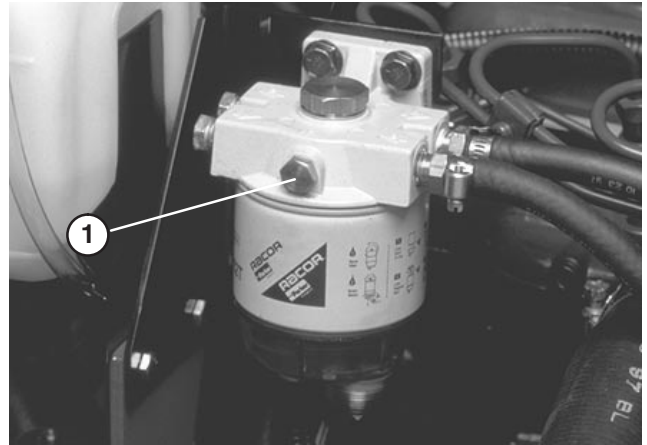

Figure 25
BLEEDING FUEL SYSTEM (Fig. 25 – 27)
- 2. Loosen air bleed screw on top of fuel filter/water separator (Fig. 25).